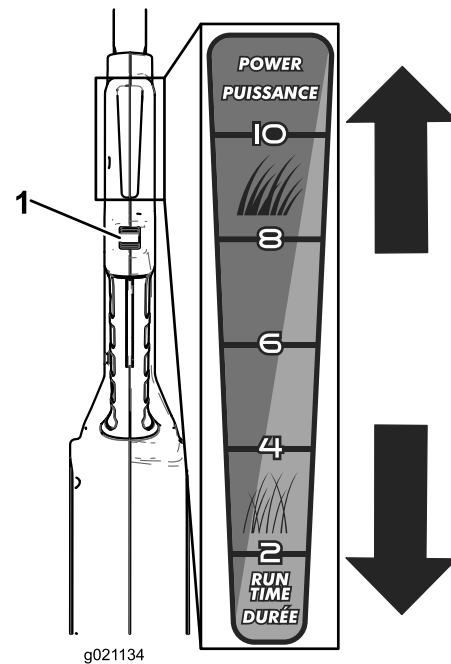

Figure 9
5. Slide the thumb wheel away from you to increase the motor speed, and towards you to decrease motor speed (Figure 9).